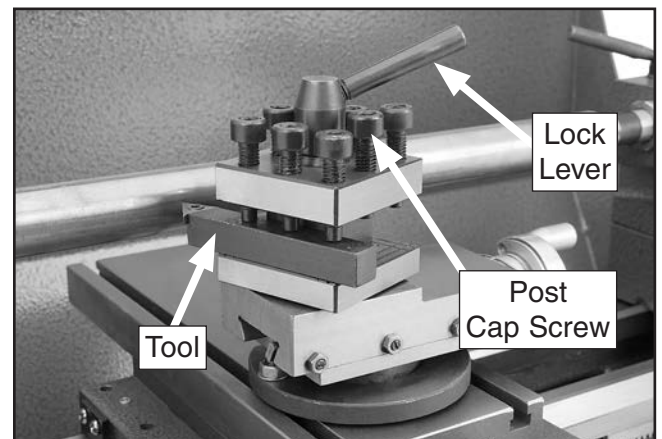

Figure 39. 4-way tool post with tool mounted.
1. Loosen the tool post cap screws until the tool fits underneath them, as shown in **Figure 39**, then evenly and firmly tighten the cap screws to secure the tool.